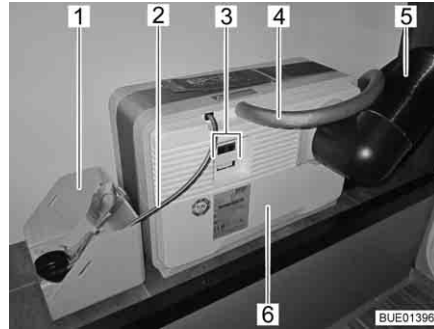
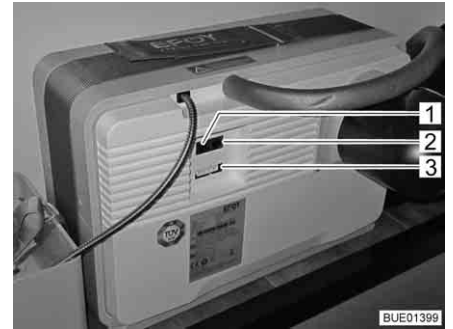
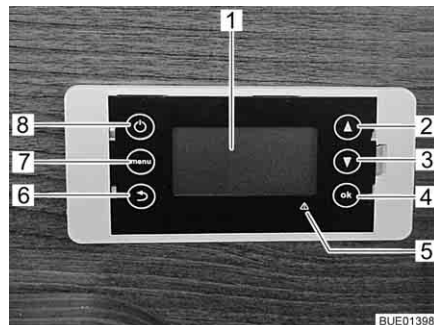

Fig. 132 Fuel cell with tank cartridge
Fig. 133 Connector panel of the fuel cell
Fig. 134 Operating unit fuel cell
The fuel cell consists of several components that are installed in the rear storage space (Fig. 132) and of an operating unit (Fig. 134) in the living area.
The following components are on the fuel cell (Fig. 132,6):
- The connector for the air discharge hose (Fig. 132,4) or the filling hole for the service fluid
- the off-heat tube (Fig. 132,5)
- electrical connections (Fig. 132,3) with data interface (Fig. 133,2), device connection (Fig. 133,3) and connection for the operating panel (Fig. 133,1)
A tank cartridge belongs to the fuel cell (Fig. 132,6). It is connected to the fuel cell via a tank connection (Fig. 132,2).
The tank cartridge is firmly fixed in the tank cartridge holder (Fig. 132,1).
The fuel cell automatically charges the living area batteries if their voltage falls below 12,3 V and if the fuel cell is switched on using the On/Off key (Fig. 134,8).
The display (Fig. 134,1) of the operating unit has four lines.
The main menu can be accessed with the menu key (Fig. 134,7):
In the event of faults, the red fault indicator (Fig. 134,5) lights up and a message appears on the display. The message consists of an error code and information on how to rectify the fault.